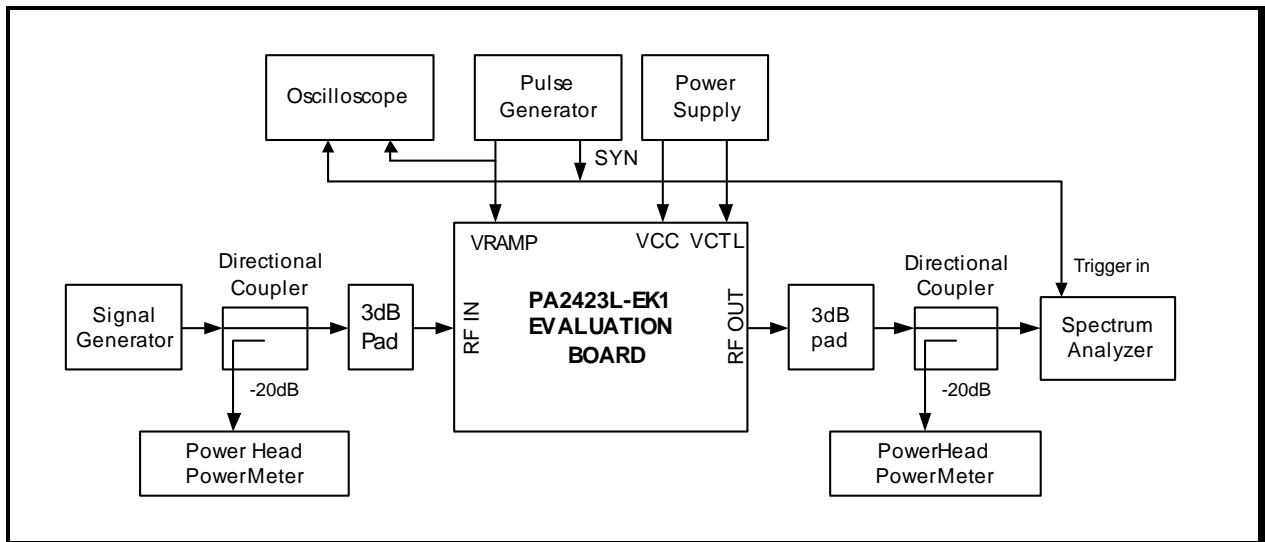

Figure 4: Test Equipment Setup for Dynamic Measurement
- 13) Connect the SYNC output of the pulse generator to the trigger input of the spectrum analyzer and oscilloscope. Connect VRAMP to the Pulse Generator with square wave output of 0-VCC pk-pk, use the oscilloscope to set the waveform amplitude. See Figure 4 for the equipment setup.